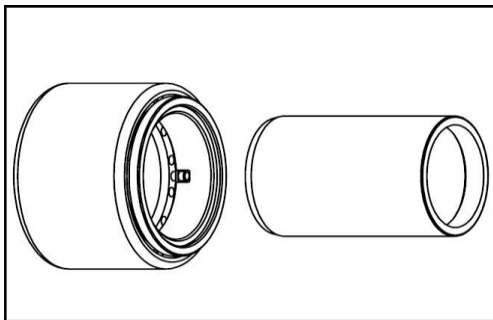

Figure 15
6. For pumps with lip seals, skip this step. Slide the chamfered end of the seal sleeve into the seal driver assembly as seen in Figure 15. The sleeve will stick in the seal driver due to the sleeve o-ring.